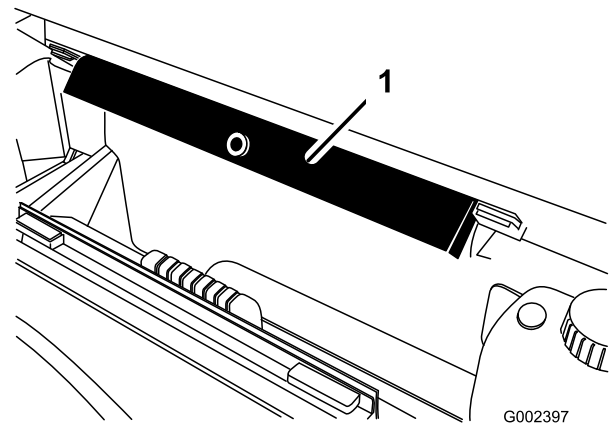

Figure 83
8. Remove the bed support from the storage brackets at back of the ROPS panel (Figure 83).